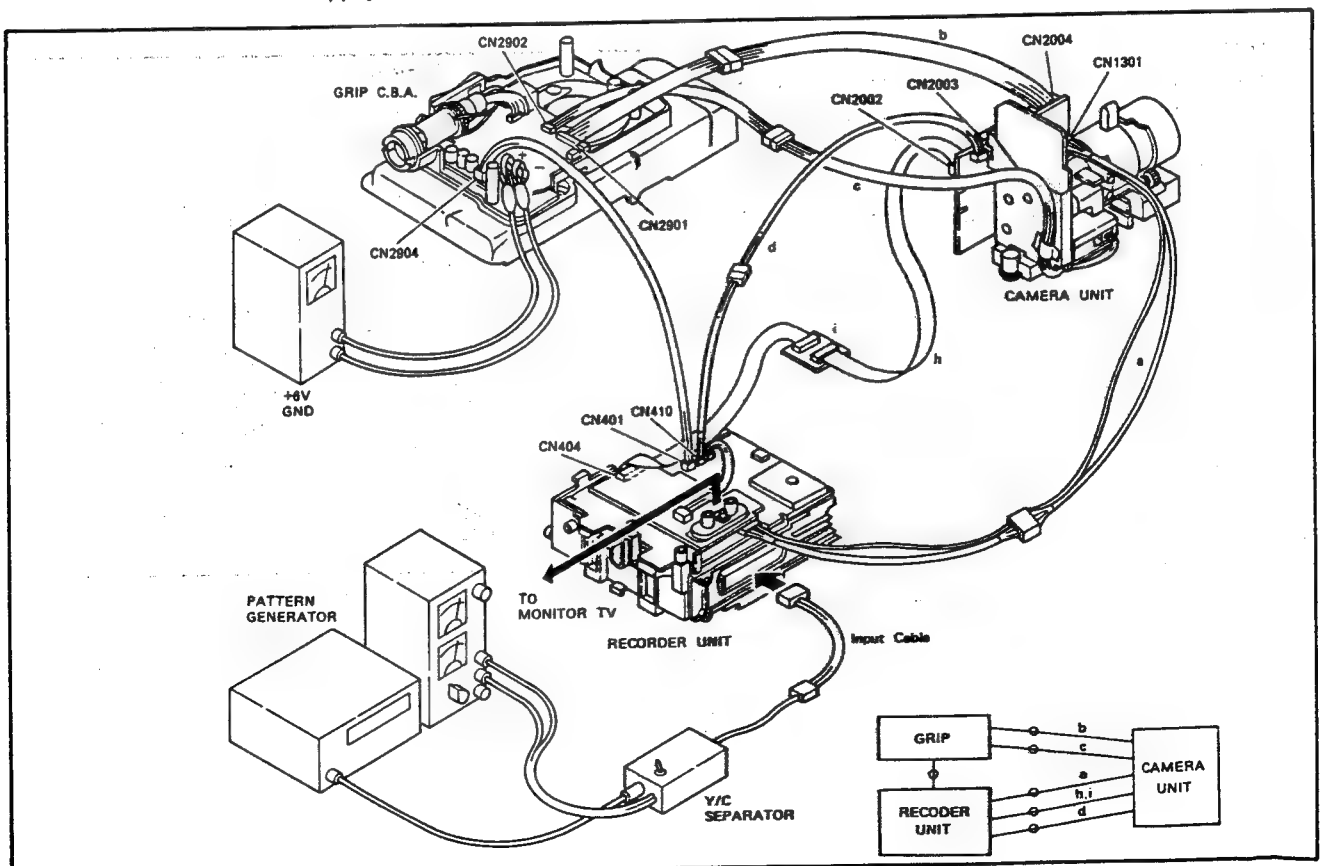

Fig. II-44
- 2) Connect the camera unit, the recorder unit and the GRIP C.B.A. using the cables. (See Fig. II-44)